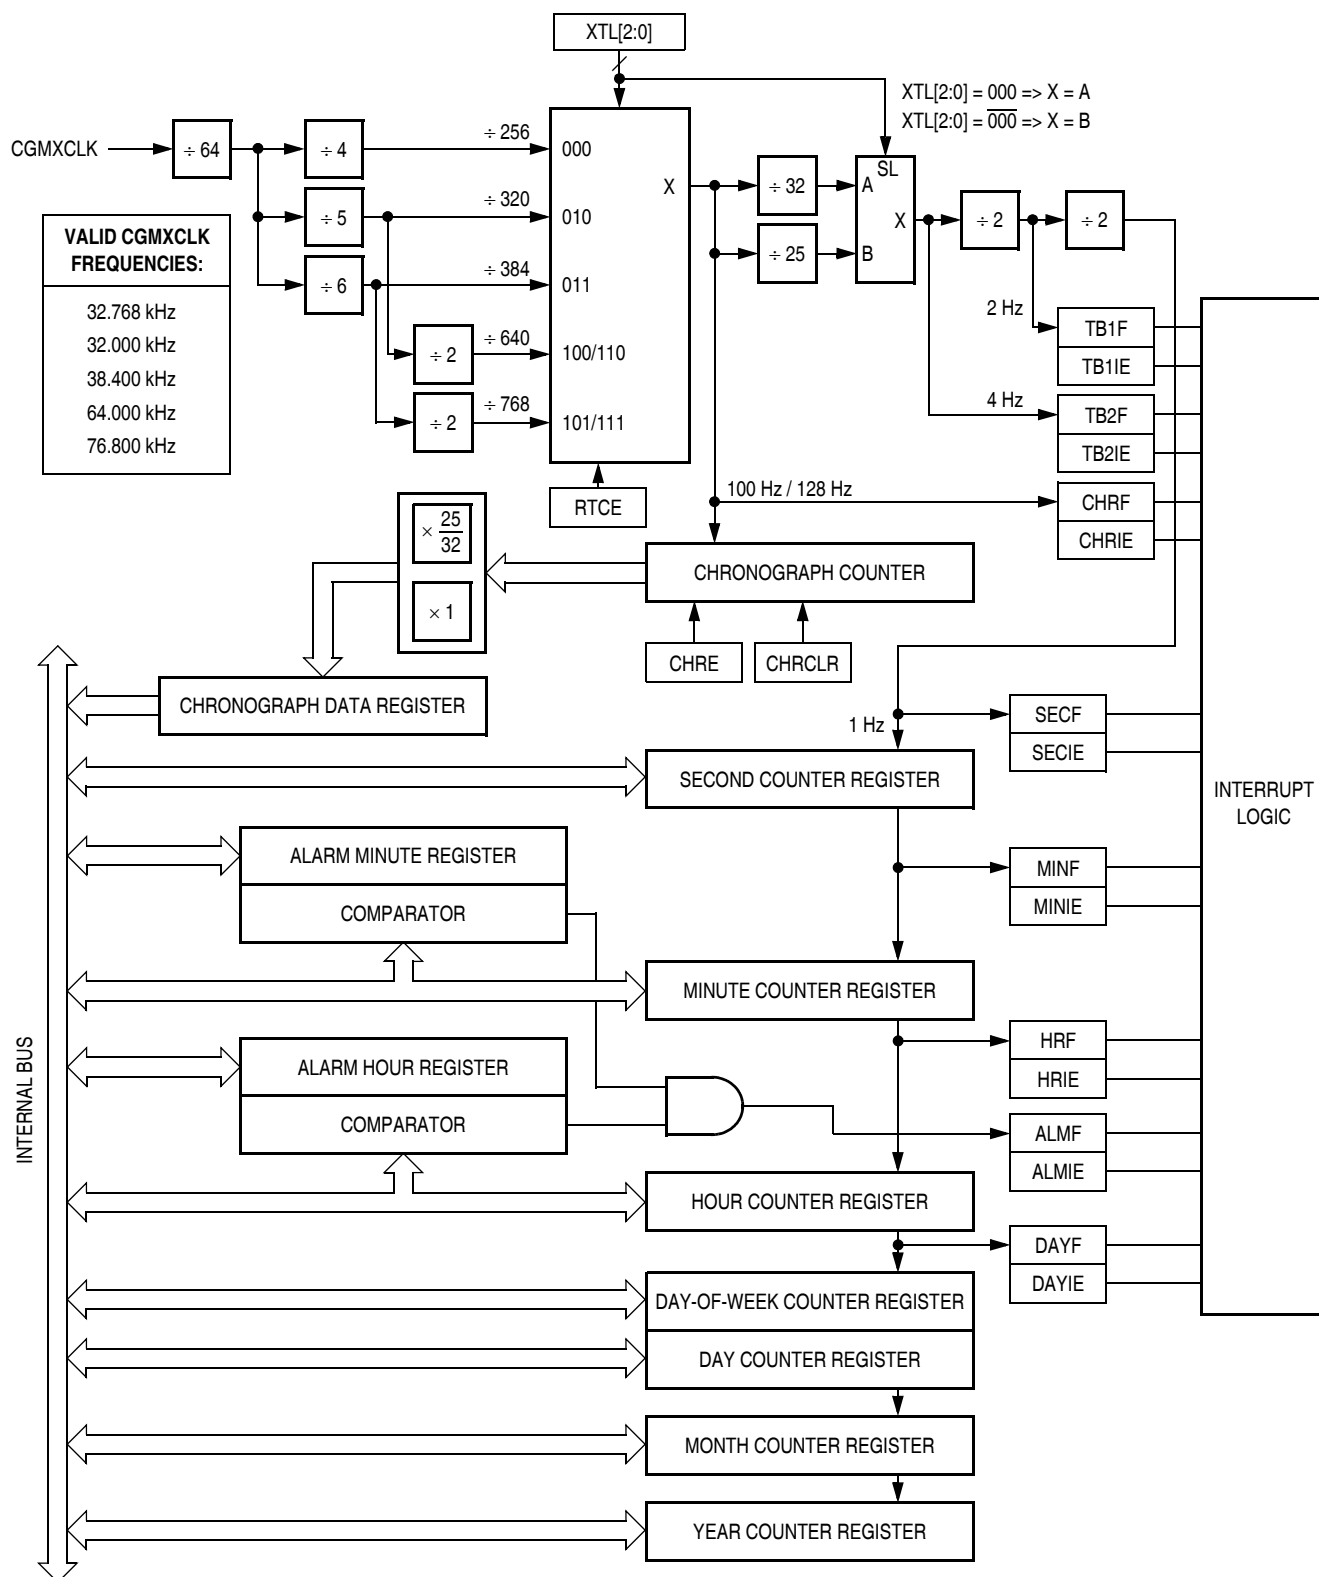

Figure 12-2. RTC Block Diagram
**Figure 12-2** shows the structure of the RTC module.